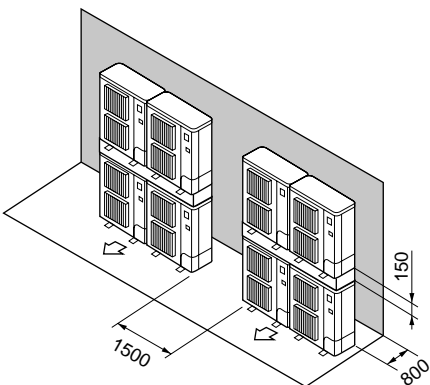

Fig. 2-16
- Stacked unit arrangement (Fig. 2-16)